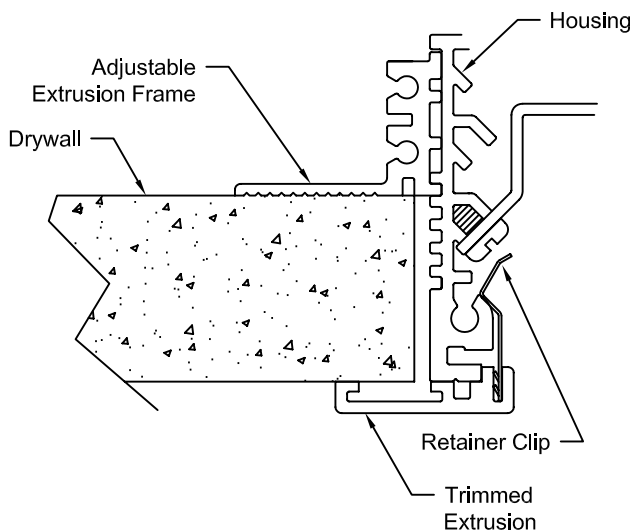

Figure 4
2. Carefully lift Corner Trimmed Extrusion at each end of Housing to release Retainer Clips (See Fig. 4).
2. Adjust elevation of Housing so that Adjustable Extrusion Frame (set to 5/8" thickness at factory) will sit on top of installed Drywall and bottom of Housing walls match bottom of Drywall surface. See Fig. 4.
3. Install Drywall to edge of Housing. See Fig. 4.